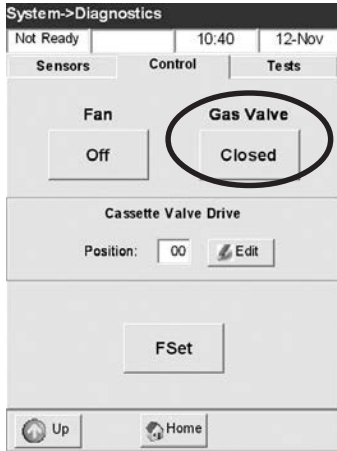

Fig. 7-9 Gas Valve
- Press the **<Open/Closed>** button under **<Gas Valve>** to start the test (Fig. 7-9).